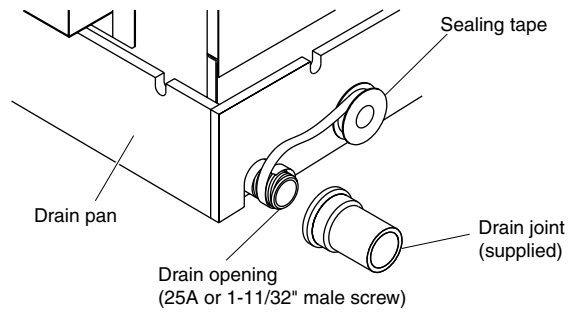
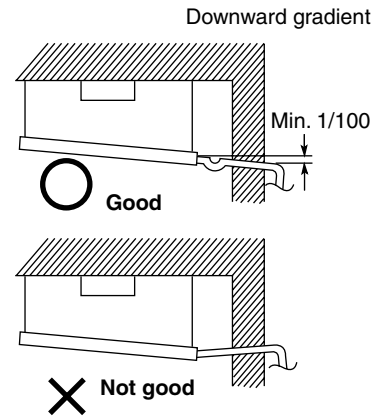

Fig. 3-105
Fig. 3-106
- (1) Prepare standard hard PVC pipe (O.D. 1-1/4") for the drain and use the supplied drain socket to prevent water leaks. The PVC pipe must be purchased separately. When doing this, apply adhesive for the PVC pipe at the connection point.
- (2) If connecting a drain joint (supplied) to the threaded drain port, first wrap the drain port threads with sealing tape, then connect the joint. (Fig. 3-105)
- (3) After connecting the drain pipe securely, wrap insulator (field supply) around the pipe.
- (4) Ensure the drain pipe has a downward gradient (1/100 or more) and prepare traps as indicated in Fig. 3-106.